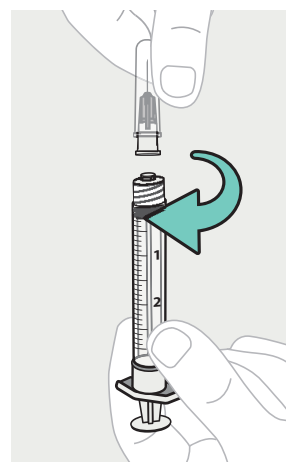

Figure 46
- f. Attach the syringe to the needle by twisting one into the other (see Figure 46).